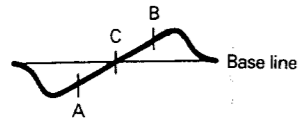

Fig. 6
1. Feed in a weak signal to TP103 from the genescoper. Adjust the T101 core to form the S-curve shown in Figure 6. Adjust the symmetry of A and B about point C for linearity.